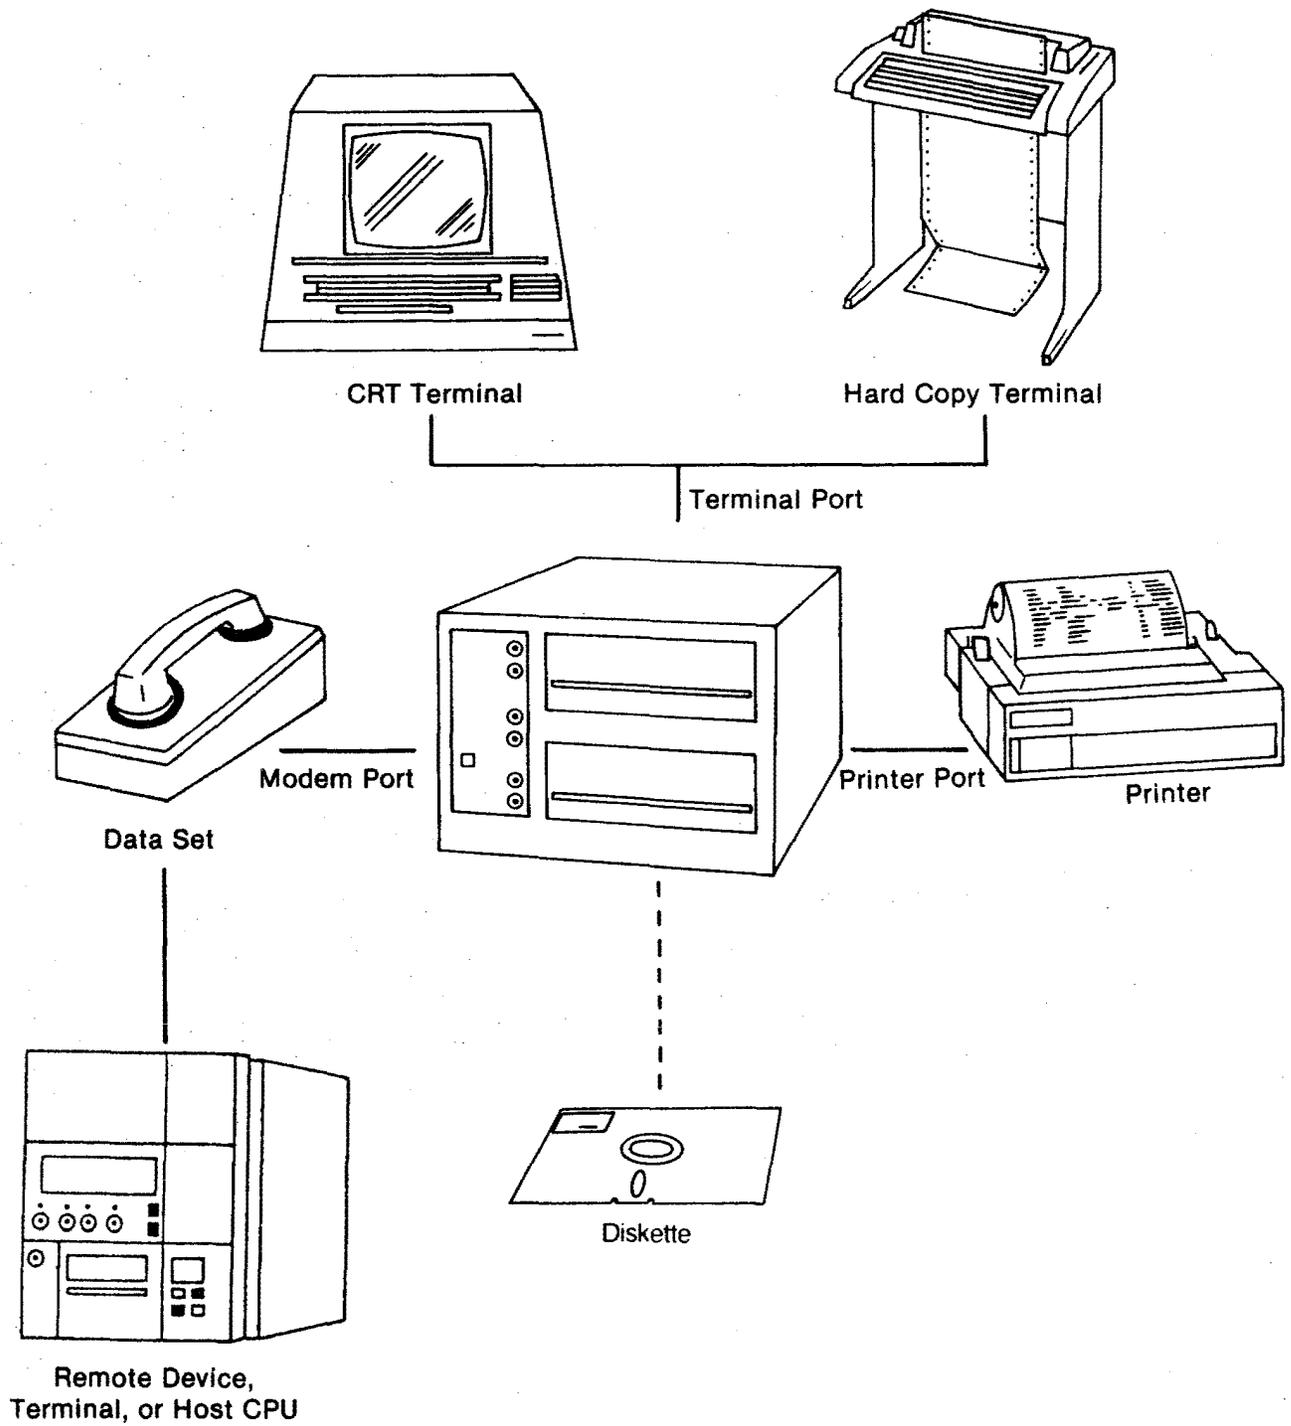

Fig. 2 — Typical Comm-Stor II Unit Installation Arrangement
**1.10** A typical installation arrangement for the Comm-Stor II unit is illustrated in Fig. 2.